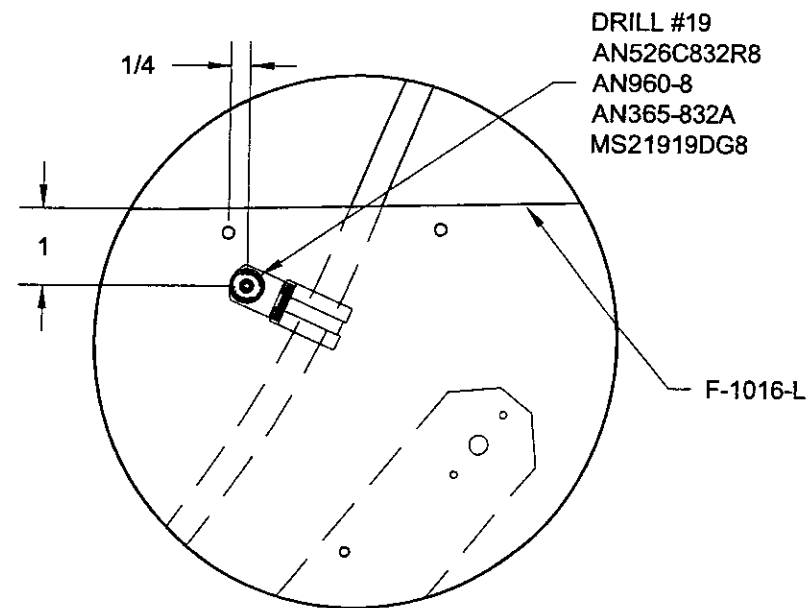

FIGURE 2: ATTACHING CUSHIONED CLAMP
Step 2: Drill the F-1016-L Outboard Foot Well Rib and install the hardware called out in Figure 2.